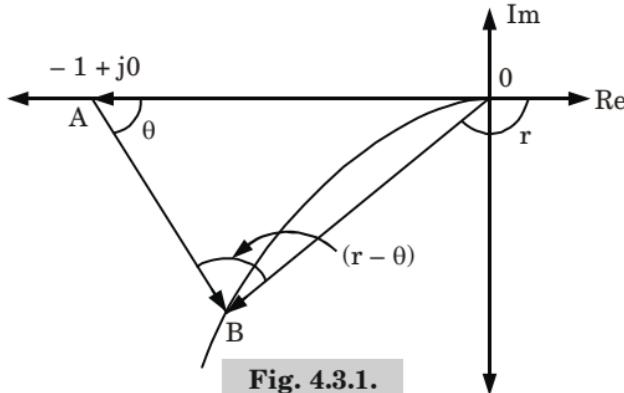

Fig. 4.3.1.
3. The polar plot of eq. (4.3.2) is shown in Fig. 4.3.1.
4. From Fig. 4.3.1, $\vec{OB} = G(j\omega)$